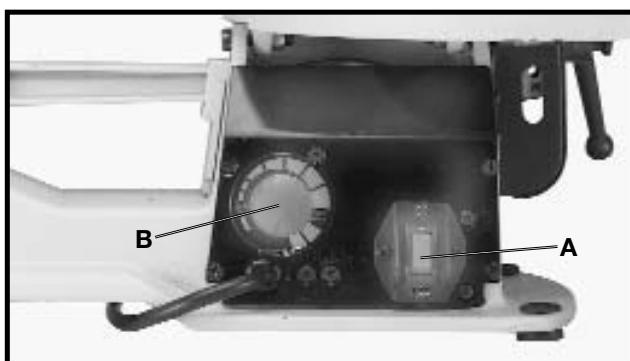

Fig. 17
The on-off switch (A) Fig. 17, and variable speed switch (B) is located on the right side of the scroll saw base, as shown. To turn the saw "ON," push the switch (A) up to the "ON" position. To turn the saw "OFF," push the switch (A) down to the "OFF" position.
The scroll saw is equipped with a variable speed control knob (B) Fig. 17. The variable speed range is 400 to 1800 strokes per minute. When the variable speed knob is rotated all the way to the left (counterclockwise) the speed will be 400 strokes per minute. To increase the speed, rotate knob (B) to the right (clockwise) until the desired speed is obtained. When the knob (B) is rotated all the way to the right (clockwise) the speed will be 1800 strokes per minute.